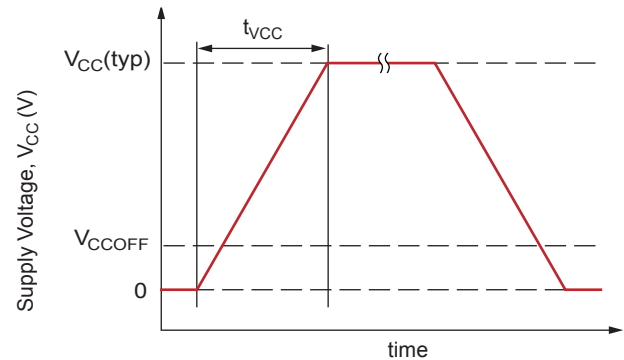

Figure 4. Definition of  $V_{CC}$  Ramp Time,  $t_{VCC}$
**$V_{CC}$  Ramp Time.** The time taken for  $V_{CC}$  to ramp from 0 V to  $V_{CC}(typ)$ . 5.0 V (see figure 4).
**$V_{CC}$  Off Level.** For applications in which the  $V_{CC}$  pin of the A1388 or A1389 is being power-cycled (for example using a multiplexer to toggle the part on and off), the specification of  $V_{CC}$  Off Level,  $V_{CCOFF}$ , determines how high a  $V_{CC}$  off voltage can be tolerated while still ensuring proper operation and startup of the device (see figure 4).